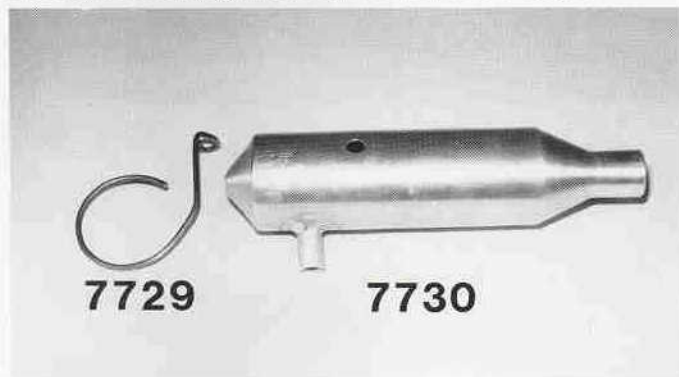
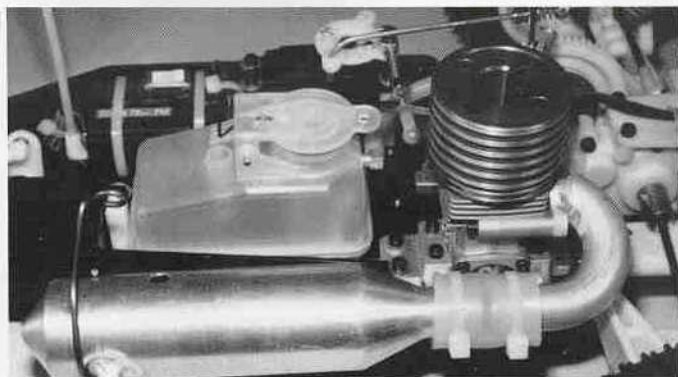

Fig. 282
Fig. 283
□ **Figs. 282 & 283** Now we can take out the #7730 tuned pipe muffler and the #7729 muffler bracket and one wire tie from the engine accessory pack. Slip the #7729 bracket onto the muffler so the eyelet is away from the exhaust nozzle (see fig. 283). Now slide the muffler into the exhaust tubing and secure it with the wire tie.